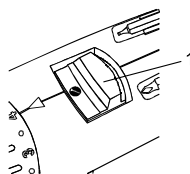

Fig. 4
1. Identify the torque settings located on the torque adjustment ring (1) (Fig. 4).
2. Rotate adjustment ring to align the correct torque setting number with the torque indicator arrow (2). See chart below for correct torque settings.